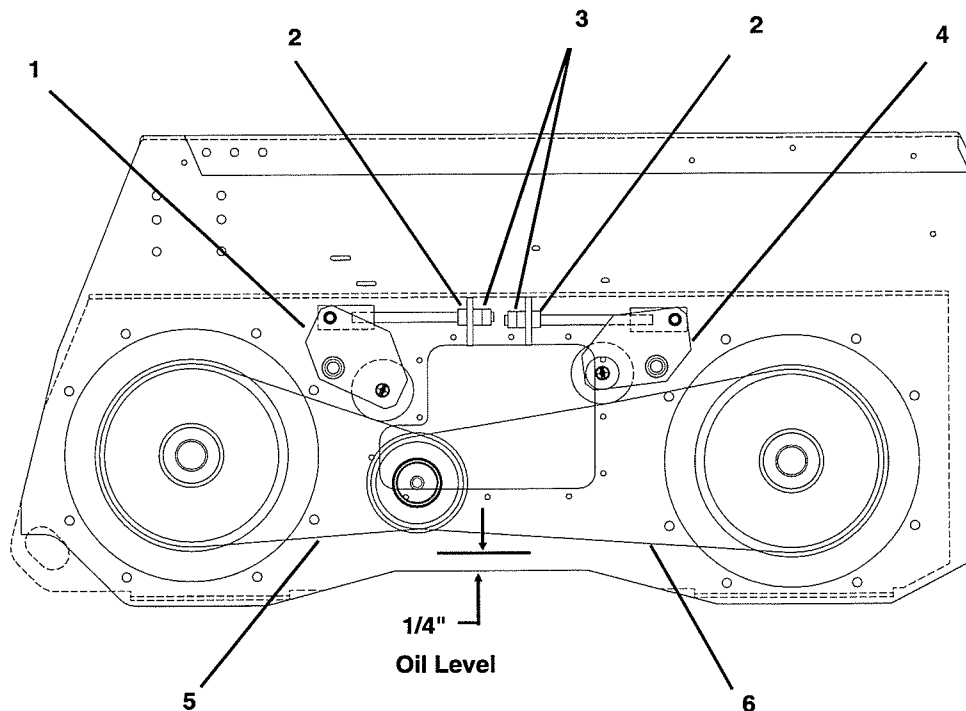

Fig. 30: 4525/4625 Adjustment Drive Chain Tension
4525/4625 Drive Chains (Fig. 30)
8. If necessary, Replenish the Chaincase oil level to 1/4" deep as measured just below Access opening. (see Fig. 30) Then, reinstall both Chaincase Access Covers using Loctite© #598 Silicon RTV or equivalent between the Cover and the Chaincase.